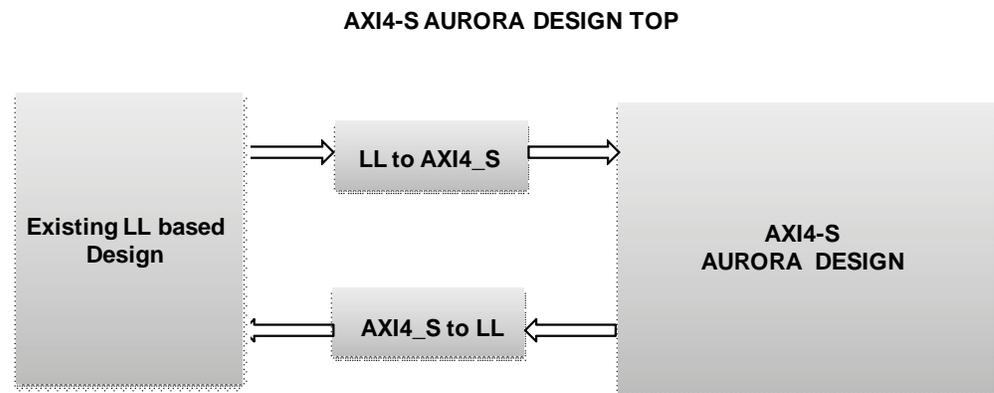

Figure C-2: AXI4-Stream Aurora Example Design
2. See Figure C-2, page 104 for the emulation of a LL Aurora core from a AXI4-Stream Aurora core.
5. Connect the shim and AXI4-Stream Aurora design as shown in Figure C-2, page 104.